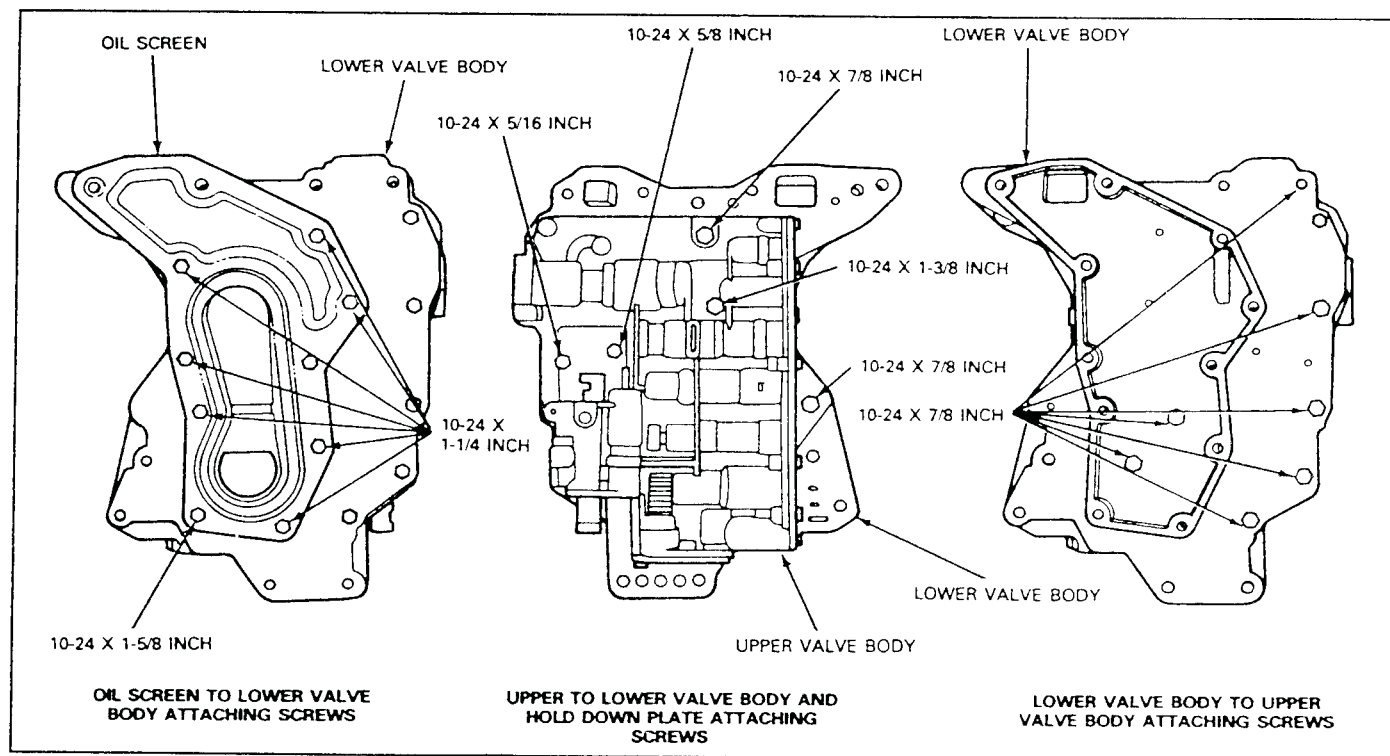
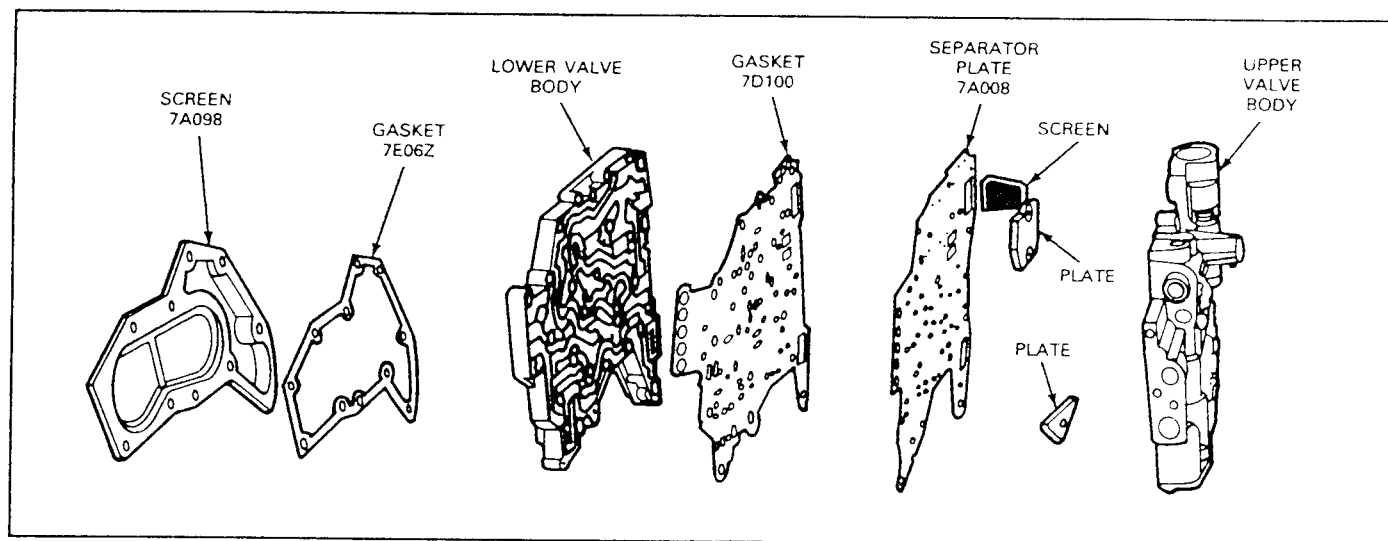

FIG. 24 Control Valve Body and Screen Attaching Screws
FIG. 25 Upper and Lower Valve Bodies Disassembled
1. Remove the nine screws that attach the screen to the lower valve body (Fig. 24) and remove screen and gasket (Fig. 25).
2. Remove the five upper-to-lower valve body and hold-down plate attaching screws. Remove the seven attaching screws from the underside of the lower valve body (Fig. 24).
3. Separate the bodies and remove the separator plate and gasket. **Be careful not to lose the check valves and springs.** Remove and clean the separator plate screen if necessary (Fig. 25).
4. Place the lower body and plate assembly on the upper valve body (Fig. 24) and install the attaching screws finger tight.
7. Remove the oil screen attaching screws and place the gasket and oil screen in position on the lower valve body. Re-install the screen attaching screws (Fig. 24).